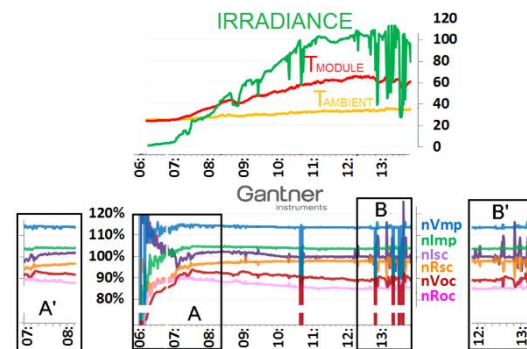

Fig 2: Raw Weather parameters (top) and LFM values (bottom) for a mostly clear morning. A' and B' are sanity checked (good, non-transient measurements) data.
Figure 2 illustrates weather parameters irradiance (*100 kW/m² green), module (red) and ambient (orange) temperatures (C) and 6 derived LFM values (bottom) over a typical morning from sunrise to just after noon with mostly